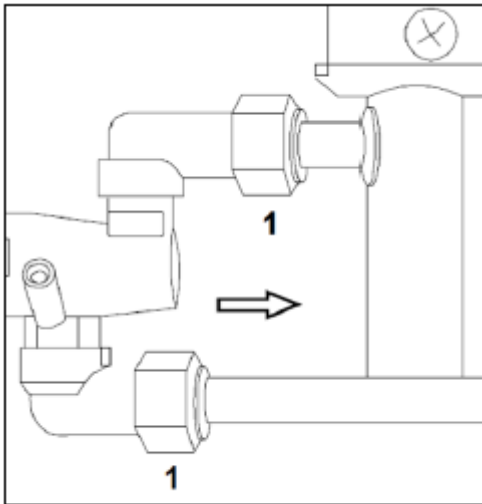

FIG.19
- Disconnect the tap from its respective gas pipe-fittings (FIG.19-Ref.1).